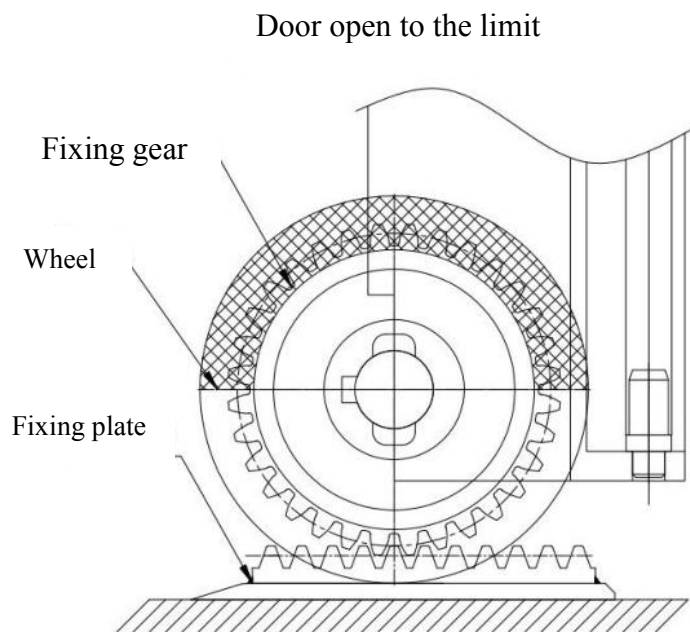

Fig.01-03
4. Push the door to the fixing plate and to open limit manually, and check if the door open completely.(as shown in Fig.01-03).